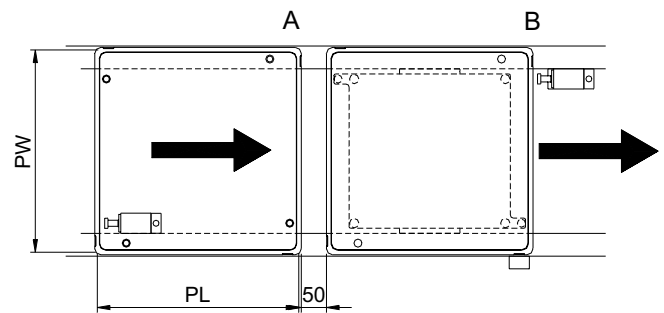

Figure 1
1. The pallets accumulates at the stop at point A. See figure 1.
2. When the module is free the pallet at point A is released and stops at the stop at point B. See figure 1.